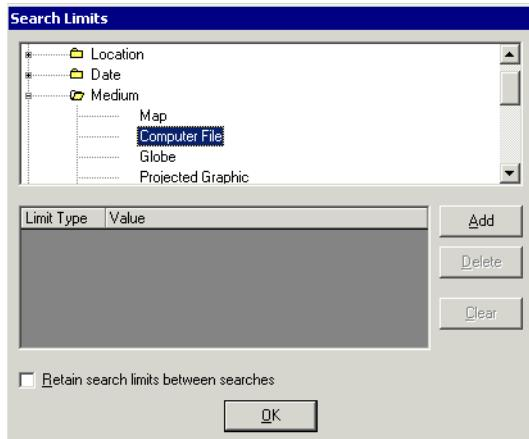

Figure 2-63. Computer File selected as search limit
3. Select any values from the list you want to use as limits for your search. Figure 2-63 shows the Medium limit of Computer File selected.